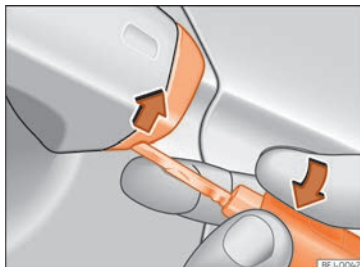

Fig. 102 Driver door handle: lever the cover off
- Insert the key shaft into the lower opening in the cover on the driver door handle »» Fig. 102 then remove the cover upwards.